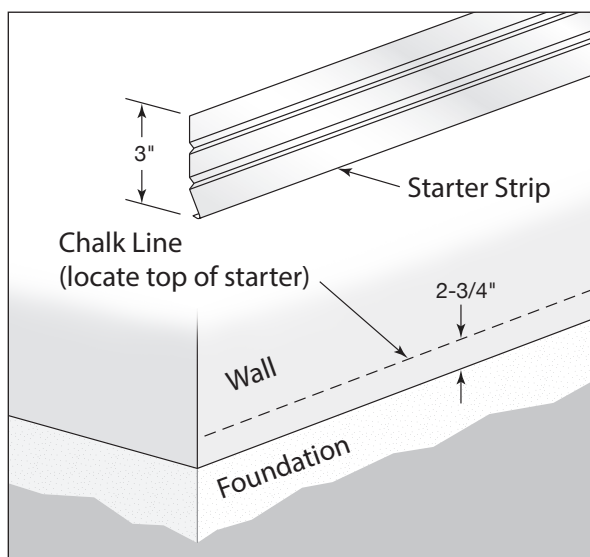

Fig. 2
- Determine the lowest point of the wall that will be sided and measure 1/4" less than the width of the starter strip to mark your chalk line (Fig. 2).
- Position the top of the starter strip on your reference mark and fasten every 8"-12" (Fig. 2).
- Leave a 1/4" space between starter strips to allow for expansion (Fig. 2).